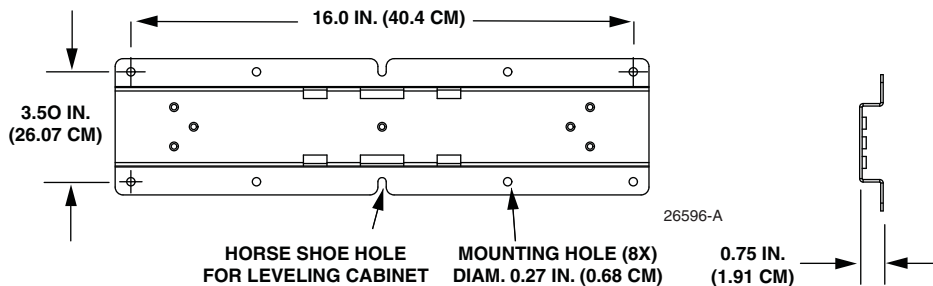
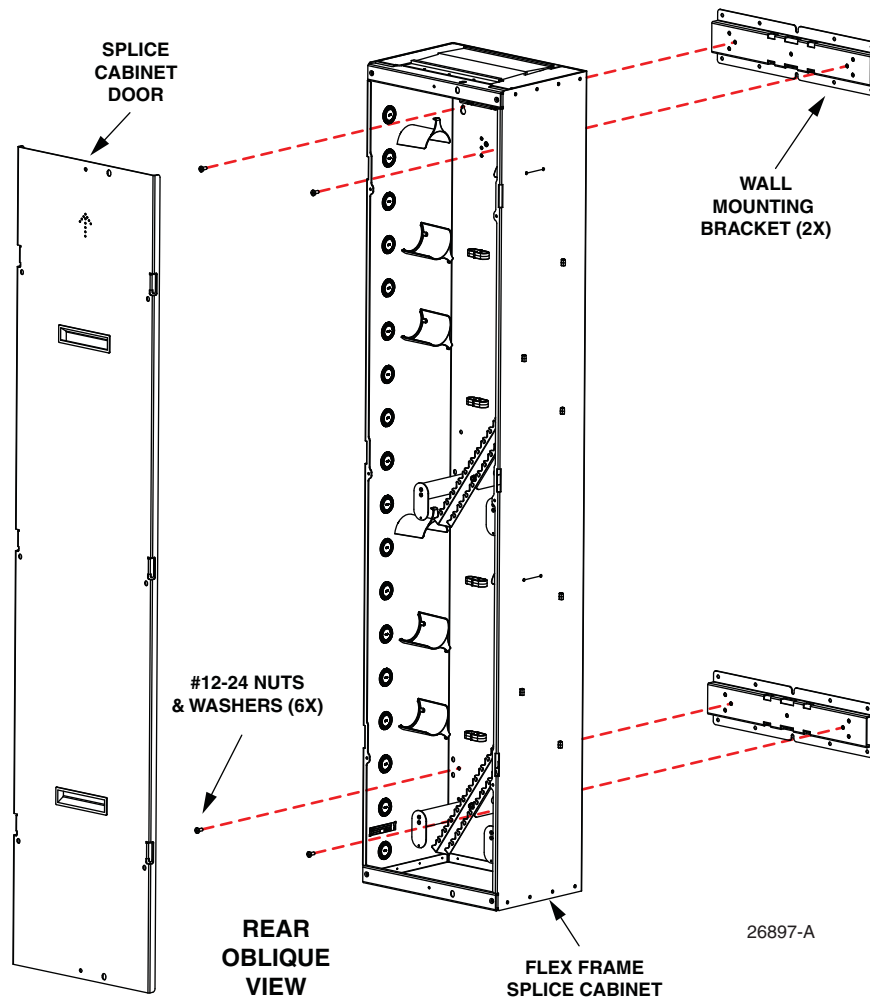

Figure 7. Wall Mounting Bracket
Figure 8. Mounting the Splice Cabinet on a Wall
Figure 7 shows the features of the wall mounting brackets. Use the following procedure referring to Figure 8.
4. Hang the cabinet on the wall by positioning the middle horseshoe opening (shown in Figure 7 on Page 8) on the support screw just installed. Level the cabinet.